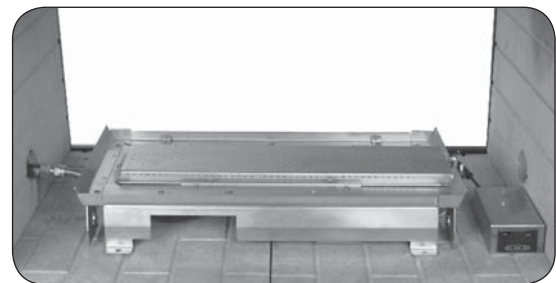

Fig. 14-2 Box location, right or left side
3. Place the burner system in the fireplace. Center the burner from left to right in the fireplace. (Reference Fig. 14-2 for orientation.)
7. **Place the (switch/remote receiver) box at the right (or left) front corner of the fireplace.** Be sure to run its wire through the opening on the right (or left) side of the burner system, and that the wire remains away from the burner system and its flame during operation. See Fig. 14-2, right side placement shown.